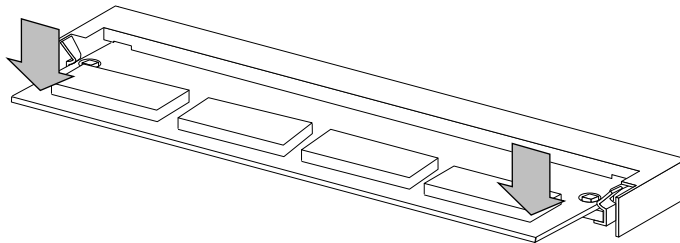

Figure 2-6. Securing the New SIMM
8. **Tilt the SIMM down into its locked position** (Figure 2-6).